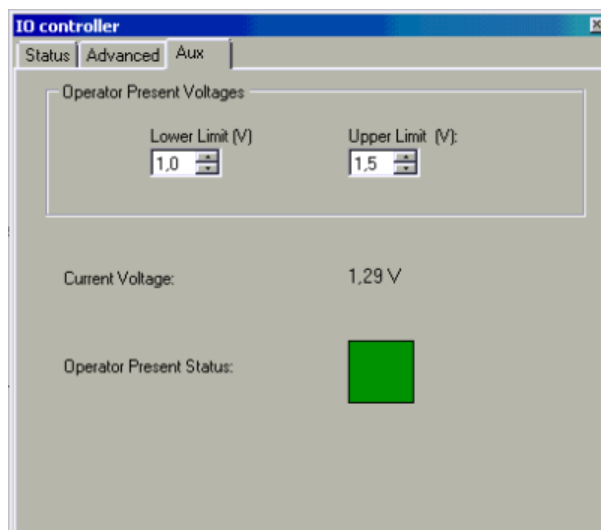
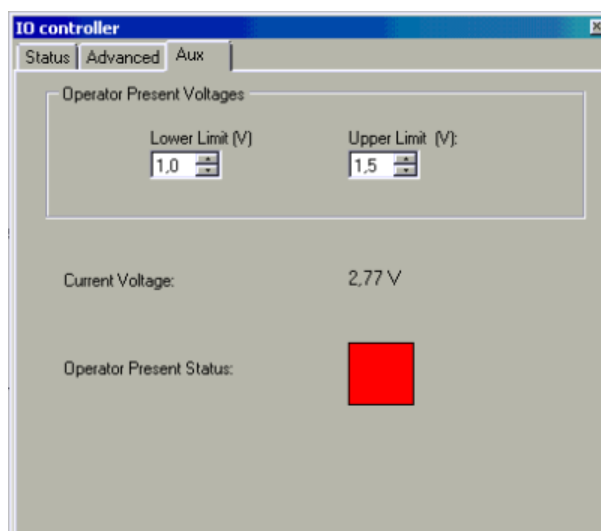

FIGURE 5 OPERATOR PRESENT
FIGURE 6 OPERATOR NOT PRESENT
For the operator presence functionality you have to set some additional settings. Go to the Configurator and to *Interfaces > CANTool*. Select the right *Hardware manufacturer* and *Hardware channel* and tap on *Initialize*. Go to *MyDevice* and select *Navigation Controller (Tractor)* and tap on *Connect*. Go to *MyPartners* and tap on *Add* behind *IO Controller DynamiQ Tractor*. Tap on *Aux* to go to the settings wizard of the operator presence sensor (Figure 5 and Figure 6).
The current voltage of the sensor is visualized behind *Current Voltage*. Determine the voltages when the operator is present and not present on the seat. For example, the voltage of the sensor is 1,29 V when the operator is present (Figure 5). Set the *Lower Limit (V)* to 1,0 V and the *Upper Limit (V)* to 1,5 V. So, the voltage when the operator is present should be in between the *Lower Limit (V)* and *Upper Limit (V)*. Make sure the *Lower Limit (V)* and *Upper Limit (V)* are set at least 0,2 V lower/higher then the voltage when the operator is present. If the limit settings are fine, the status indicator behind *Operator Present Status* should be green if the operator is present and should be red if the operator is not present (Figure 6).